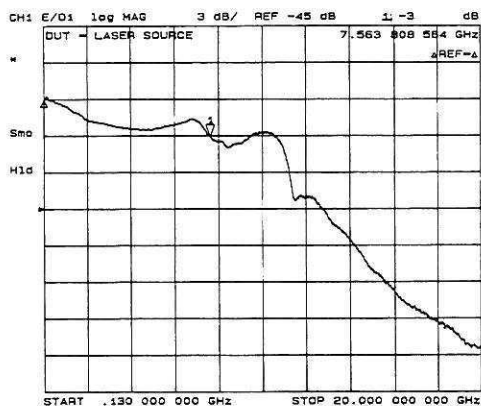

Figure 9. Typical E/O Source DUT Measurement
10. Press [SCALE REF] [AUTO SCALE] to better view the device response. Figure 9 is a typical result of the DUT measurement.